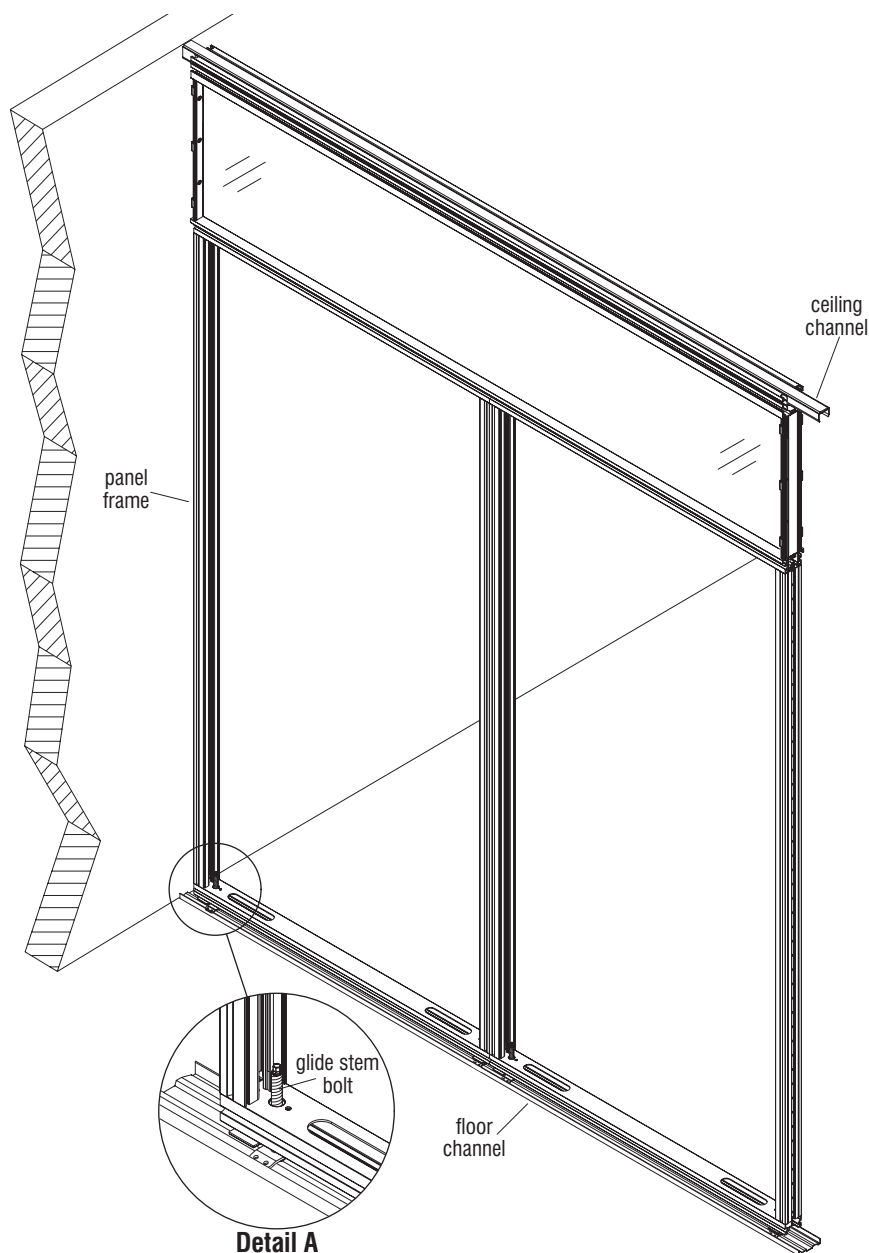

Figure 2
8. With the help of two or more people, carefully rotate the panels with spanning stacking section up, setting the bottom of the assembled unit into the floor channel and tip the unit up vertical, directly under the ceiling rail. With help holding the panels with stacking section upright vertical, use the same power drill, 18" extension with  $\frac{5}{16}$ " socket and raise the assembly up into the ceiling rail by turning all glide stem bolts clockwise (Figure 2 & Detail A).
9. Assure that the panels with glass stacking section is set to its final installation location, then adjust glides to achieve leveled panels, fully engaging the ceiling rail (Figure 2). See page 20 "Panel Height Adjustment" steps 5–8 for reference.